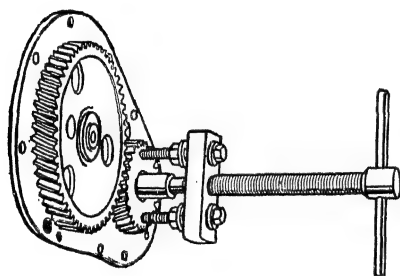
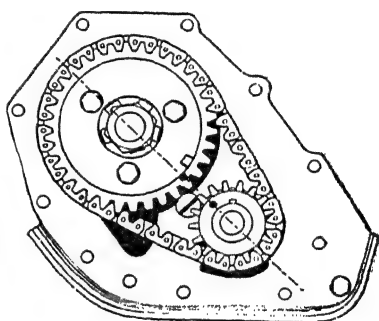

Fig. 6. After the Timing Gear Cover Is Off, Pull the Crankshaft Gear
Fig. 7. Inspect Chains and Sprockets to Learn Method of Marking before Removing Chains or Gears
**Removing Timing Gears.** Make a careful inspection of the timing gears to see how they are marked. Sometimes chains are used in connection with sprockets, rather than the timing gears, illustrated in Fig. 6. If the chain has been used, wipe the oil from it and the sprockets and see whether you can locate the timing marks. These will be apparent in most cases. Refer to Fig. 7, which illustrates this type of construction and one method of marking. When inspecting timing-gear marks, the engine should be placed with piston No. 1 on top dead center, the exhaust valve just closing and the intake valve just starting to open. The marks should then coincide. Cam gears are bolted to the end of the camshaft. As a rule, it is not necessary to remove the cam gear.
The crankshaft gear is, in most cases, a press fit on the end of the crankshaft, a key being used to prevent its turning on the shaft. Fig. 6 illustrates the use of a gear puller. This may be purchased or may be made up, as occasion warrants. Under no circumstances